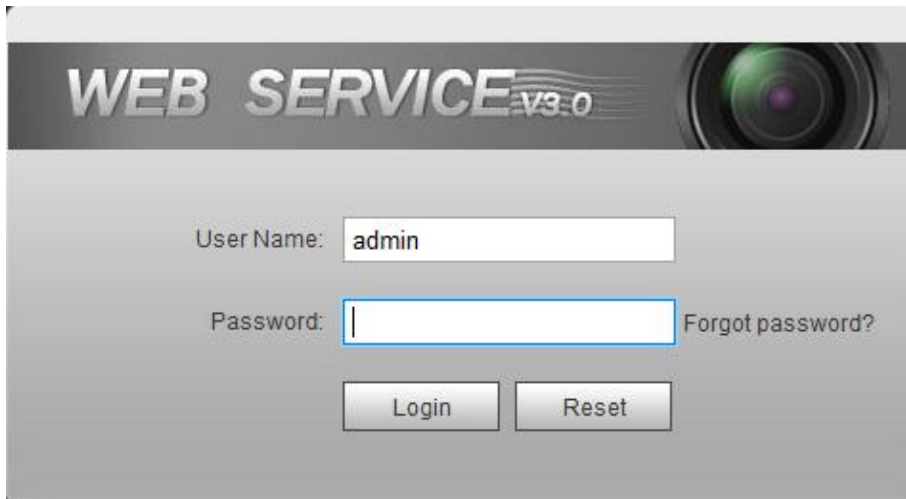

Figure 5-5
- Click  in device row, to login WEB page. See Figure 5-5.